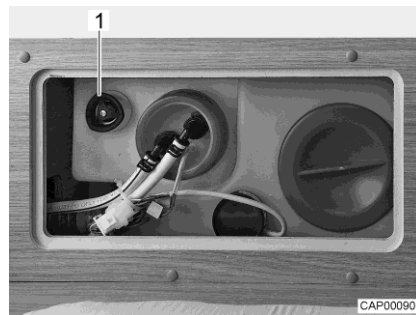

Fig. 95 Water tank with rotary handle
- Turn the rotary handle (Fig. 95,1) on the water tank in a clockwise direction as far as it will go.
- Turn the rotary handle (Fig. 95,1) on the water tank in an anticlockwise direction as far as it will go. Excess water will drain away leaving approx. 20 litres in the tank.